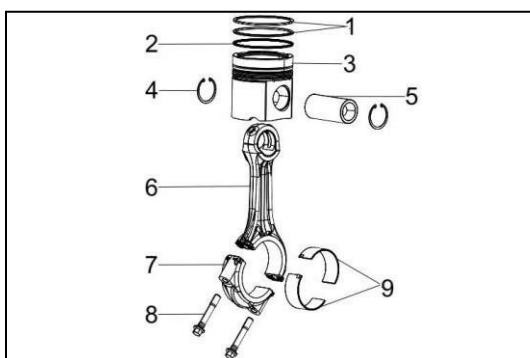

Figure 97
12. Remove the connecting rod bearings (Figure 97, 9).
13. Remove the compression rings (Figure 97, 1) from the piston using a piston ring expander.
14. Remove the oil ring (Figure 97, 2) from the piston using a piston ring expander.
15. Remove the circlips (Figure 97, 4) from the piston pin.